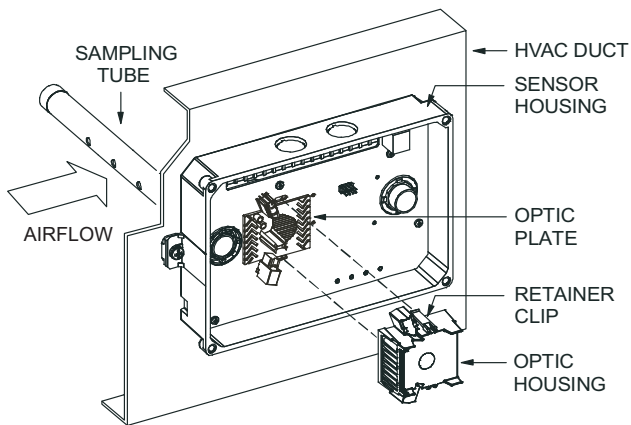

Fig. 46 — Sensor Cleaning Diagram
1. Disconnect power from the duct detector then remove the sensor's cover. See Fig. 46.